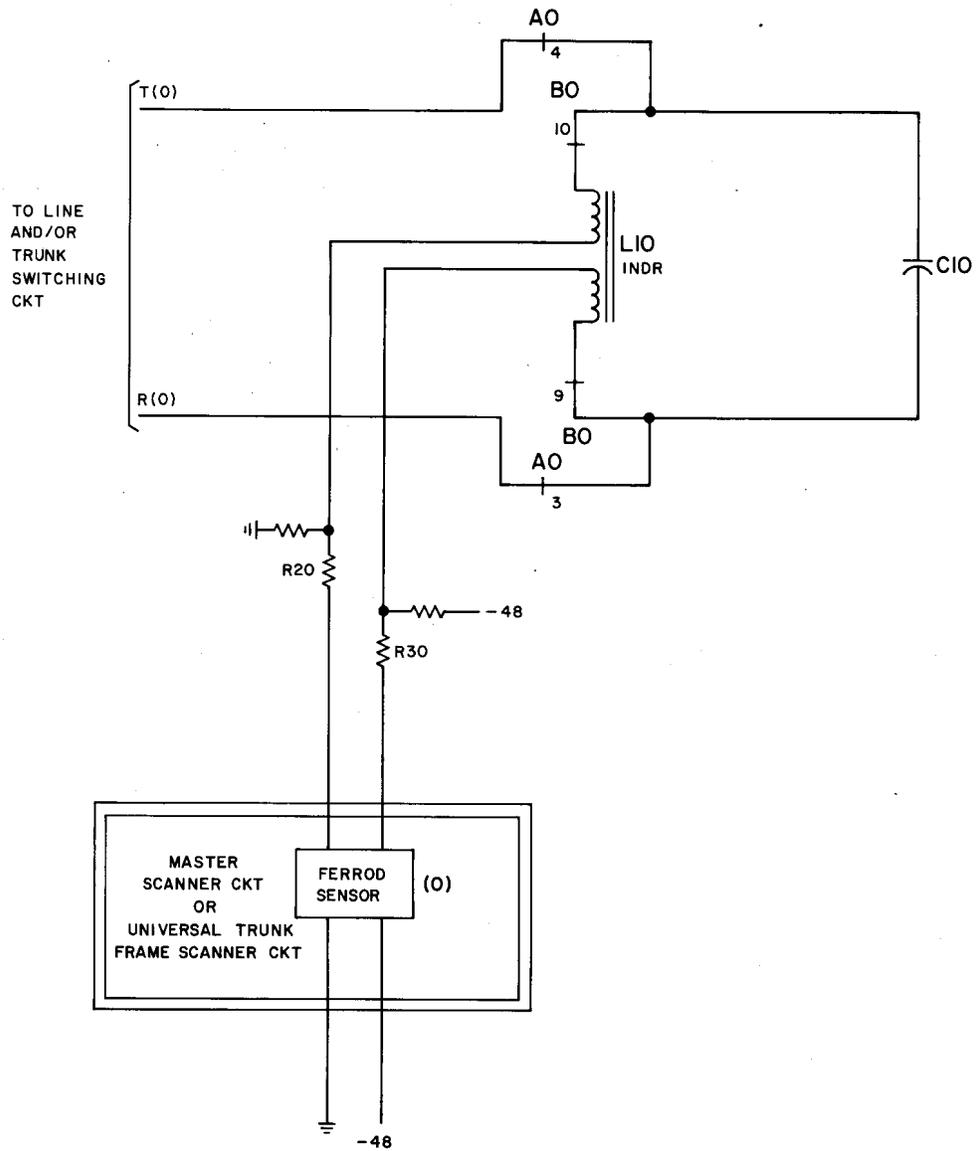

Fig. 1—Short Circuit Termination Circuit (State 1)
1). Figure 1 shows the current path when A0 is operated.